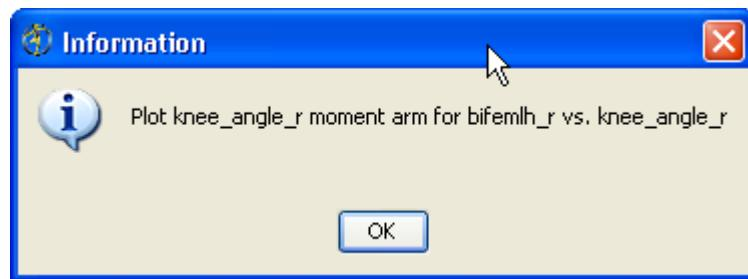

Figure 13.8: Curve Info Dialog Box
- **Info** – Displays a dialog box, as shown in Figure 13.8, with information about the data source and attributes. This helps distinguish curves from one another, since the